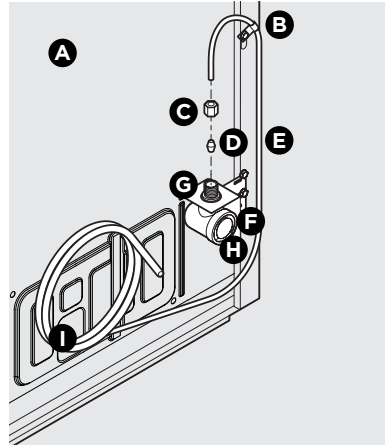
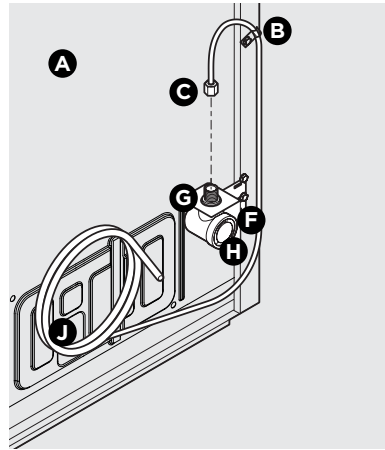

Figure 1
Figure 2
4. If you use **copper tubing** - Slide the brass compression nut and then the ferrule (sleeve) onto the water supply line. Push the water supply line into the water valve inlet as far as it will go ($\frac{1}{4}$ "/6,4 mm). Slide the ferrule (sleeve) into the valve inlet and finger tighten the compression nut onto the valve. Tighten another half turn with a wrench; DO NOT overtighten. See Figure 1.
If you use **braided flexible stainless steel tubing** - The nut is already assembled on the tubing. Slide the nut onto the tubing and finger tighten the nut onto the valve. Tighten another half turn with a wrench; DO NOT overtighten. See Figure 2.
B	Steel Clamp (Fig. 1: $\frac{1}{4}$ "; Fig. 2: $\frac{1}{2}$ ")